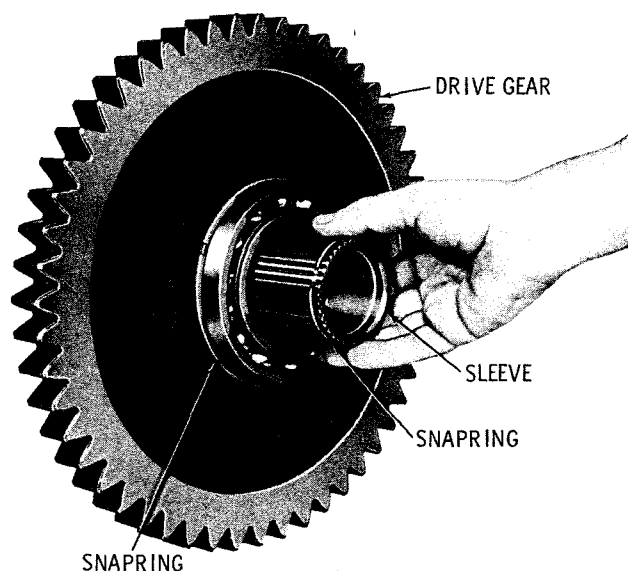

Fig. 7-5. Installing high-range sun gear sleeve into transfer drive gear
(2) Install the forward clutch piston housing and retain it with ten 3/8-16 x 1 1/2-inch, self-locking bolts 22. Tighten the bolts to 36 to 43 pound feet torque.
(3) Install the snapring into the groove nearer the end of the high-range sun gear splined sleeve. Install the sleeve into the transfer drive gear assembly at the side which has a smooth bore in the hub (fig. 7-5).